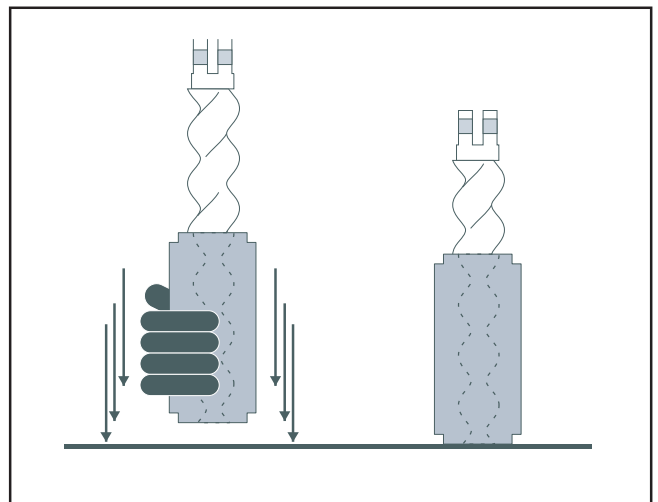

FIG.36
- Tap the pump (stator + auger partially inserted) repeatedly against an object that will not damage the stator (e.g., a block of wood) (FIG. 36).